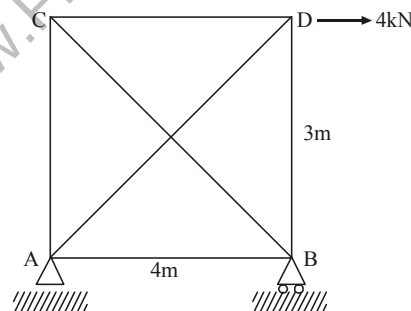

Fig.5
9. What are statically indeterminate trusses? Analyze the truss shown in Figure. 5 using the method of virtual work.